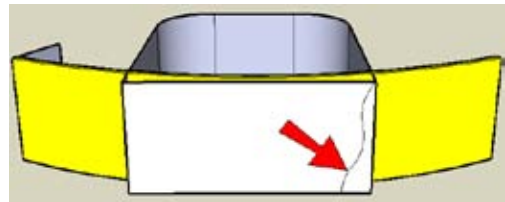

Figure 4-67
5. On the back of the box, make a face like the one indicated in Figure 4-67, using tangent arcs.